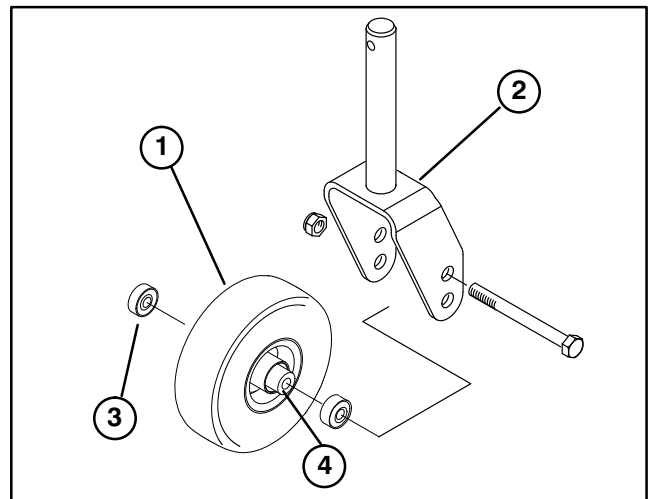
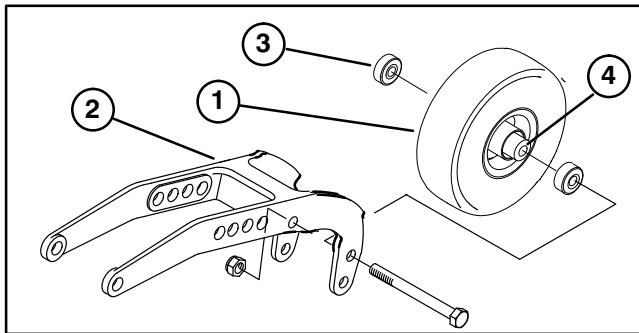

Figure 29
Figure 30
SERVICING CASTOR WHEELS AND BEARINGS (Fig. 29–30)
1. Remove locknut from capscrew holding castor wheel assembly between front castor fork (Fig. 29) or rear castor pivot arm (Fig. 30). Grasp castor wheel and slide capscrew out of fork or pivot arm.